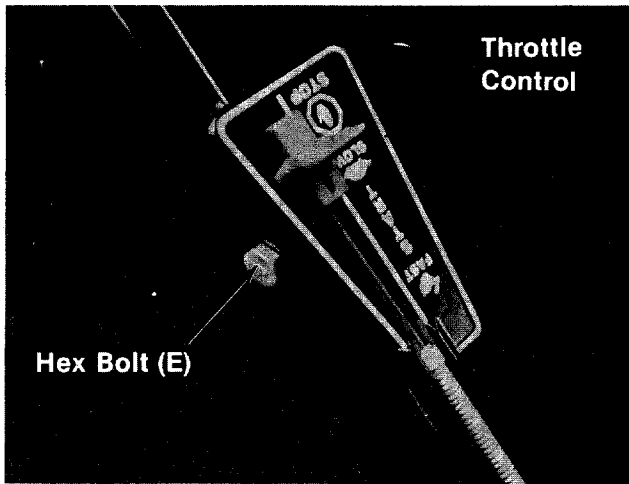

FIGURE 4.
- ← 5. Place the throttle control in position on right side of upper handle. Secure with hex bolt (E) and lock nut (F). See figure 4.